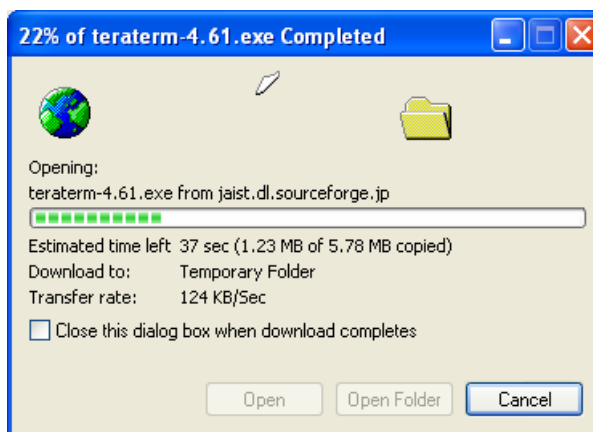

Figure 6-10: File Download
4. A progress screen is displayed during the file download (Figure 6-10).